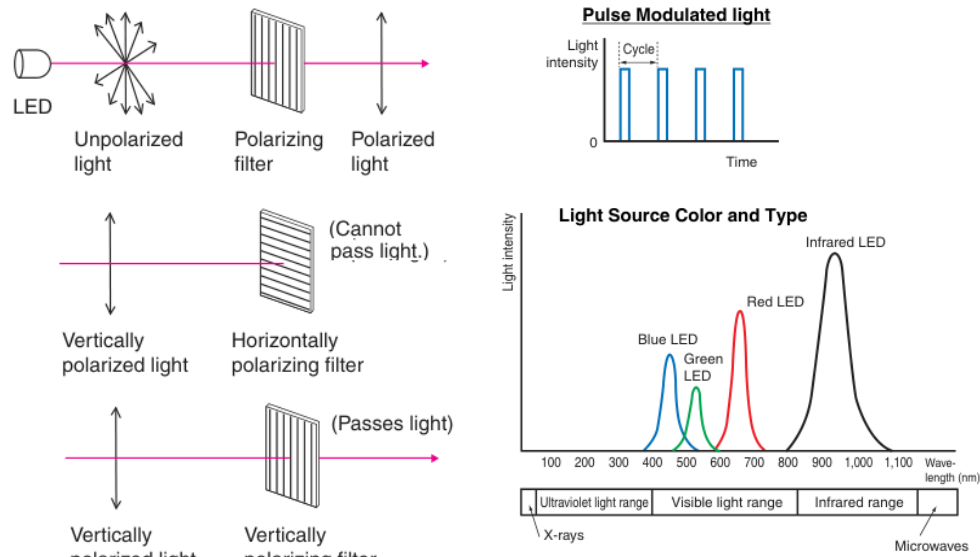

Fig.5 Light Sources (Light Generation).
3. Light Sources (Light Generation-Fig.5):